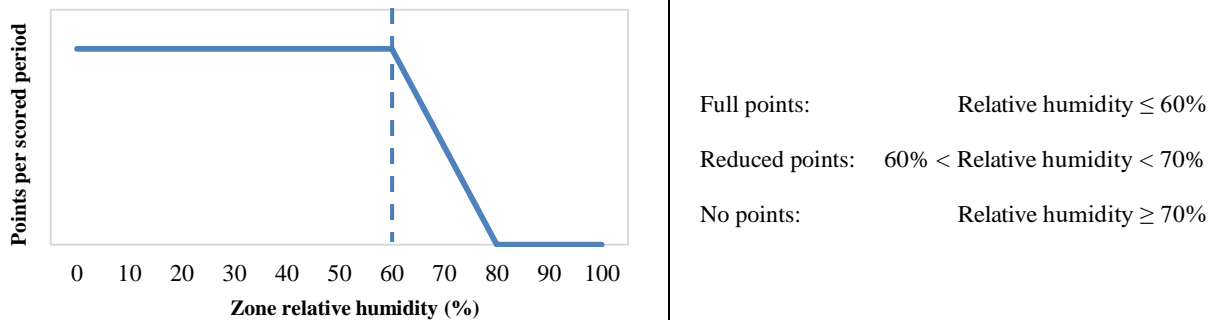

Figure 3 Scoring function for the Humidity Subcontest
- Reduced points are earned if the time-averaged interior relative humidity is between 60.0% and 70.0%. Reduced point values are scaled linearly, as shown in Figure 3.